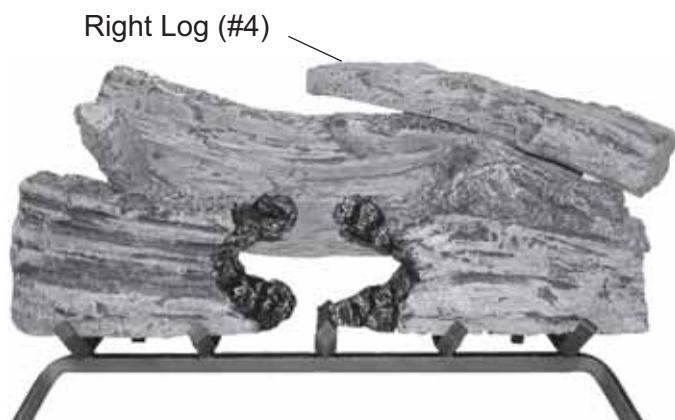

Figure 107 - Installing Right Log (#4)
6. Rest front end of Right Log #4 on right top of Log #1B. The back end of Log #4 rests to right hump on Log #3. *See Figure 107.*